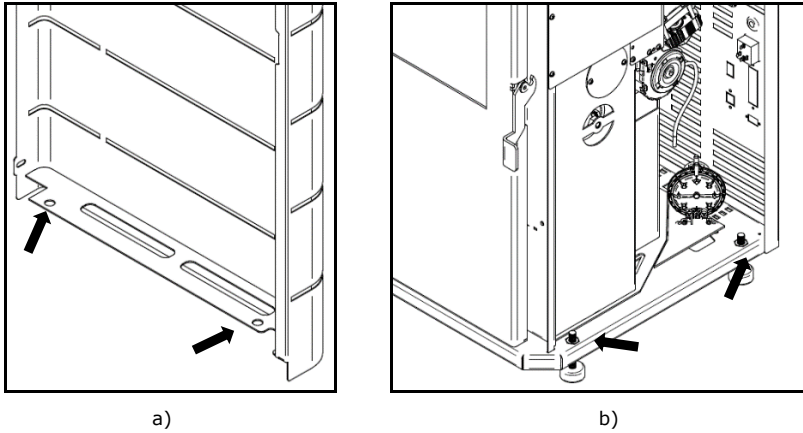

Figure 22 - Bottom side attachment of the casings
b) Fit the lower holes on the side covers (Figure 22-a) to the guides located at the bottom of the machine (Figure 22-b).